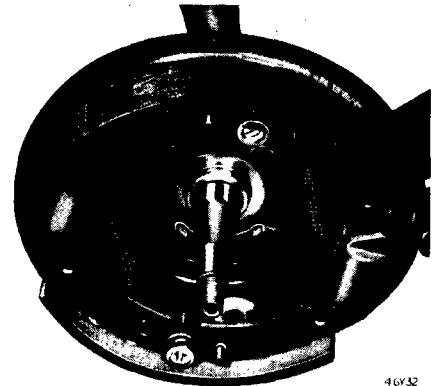

Fig. 12.
8. Remove the nyloc nut (22), washer (21) and, using an extractor (Fig. 12), separate the upper ball joint (16) from the vertical link (18).
9. Remove the bolts (15), nyloc nuts (20) and detach the ball joint (16) from the outer ends of the wishbone arms (10) and (12).